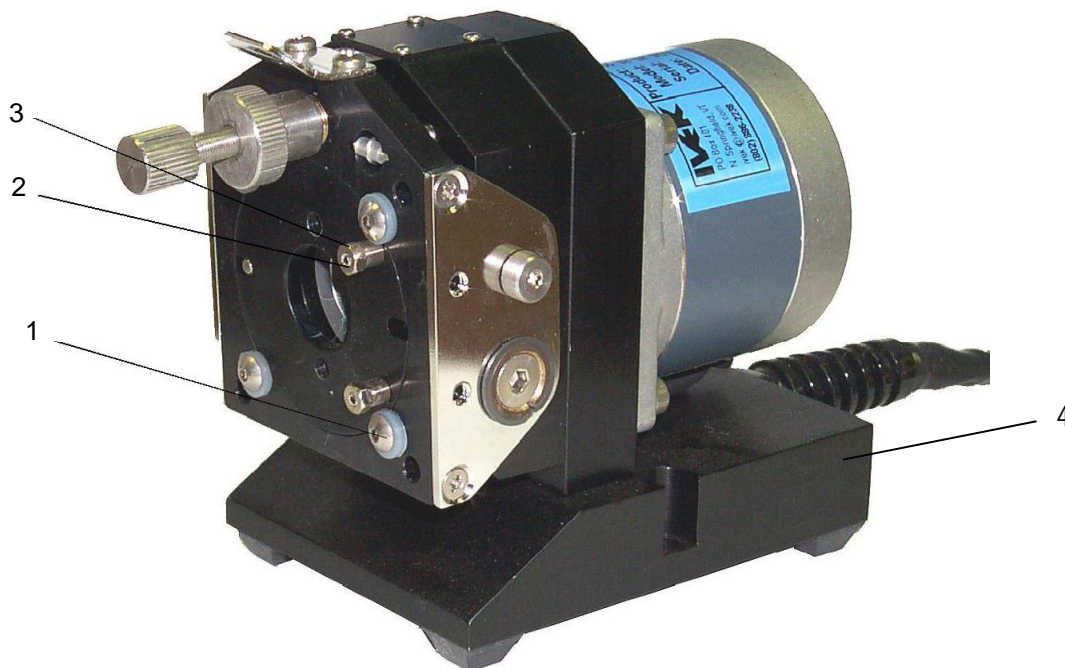

Figure 5.4 Microspense AP Motor/Base Module Pump Stabilization
5.2.5 Pump Stabilization (Figure 5.4)
The following steps describe the procedure for adjusting the Pump Module for accelerated discharge. In general, an accelerated discharge position is established when the pump module stabilizing ring is angled from the face plate. In this position, the setscrews (3) contact the face plate to create the angled position. These set screws can be adjusted to create a positive offset (0.04" (1.0mm) max.) between the pump module stabilizing ring and the face plate. (See Figure 5.4) The amount of fluidic acceleration is adjusted by changing this offset and can only be optimized through trial and error.
2. Loosen (1/4 turn) the two #6-32 x .31" long button head socket cap screws (1) on the discharge side of the Pump Module.
3. Loosen two stabilizing lock nuts (3) and turn #4-40 x .38" long socket set screws (2) until the set screw just touches the surface of the face plate.
4. Turn #4-40 x .38" long socket set screws (2) clockwise one additional turn.
5. Tighten two stabilizing lock nuts (3) in to lock the #4-40 x .38" long socket set screws (2) in place. Do not exceed 5 in-lbs. of torque when tightening stabilizing lock nuts (3).
6. Tighten two #6-32 x .31" long button head socket cap screws (1) to 10 in-lbs. (1.13 N-M) to lock the Pump Module stabilizing ring in position and fix the accelerated discharge adjustment.